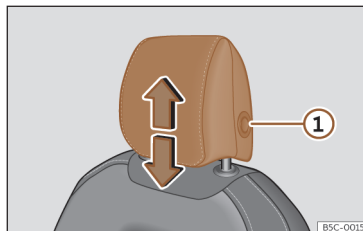
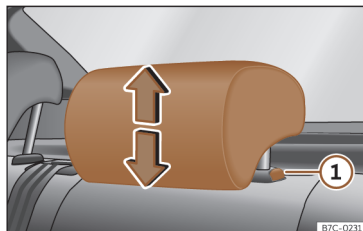

Fig. 100 Front seat: adjusting the headrest.
Fig. 101 Rear headrest: adjusting the headrest.
- Grab the sides of the headrests with both hands and push upwards to the desired position. To lower it, repeat the same action, pressing the button on the side ① >>> Fig. 100 , >>> Fig. 101.